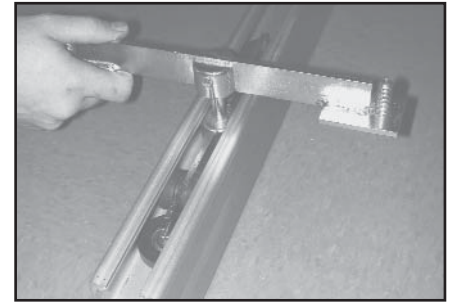

Figure 11
6. In the other rail, place the wheeled part of the x-y fixed trolley into the rail. The metal wing bolt part of the trolley should be fully visible (Figure 11).